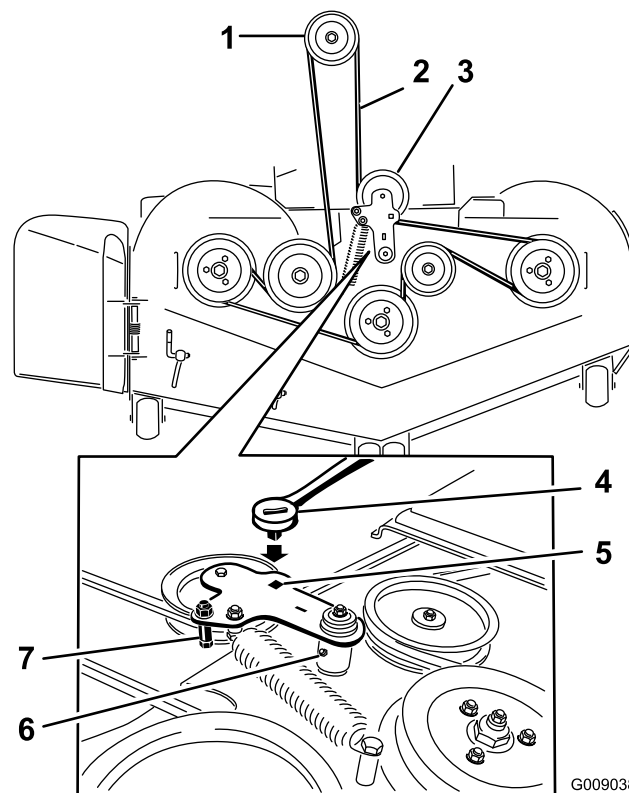

Figure 71
10. Install the belt guide on the idler arm shown in Figure 71.
11. Using the ratchet in the square hole, install the idler spring (Figure 71).
5. Use a ratchet in the square hole in the idler arm to remove tension on the idler spring (Figure 71).
7. Remove the belt guide on the spring loaded idler arm shown in Figure 71.
9. Install the new belt around the mower pulleys and the clutch pulley under the engine (Figure 71).